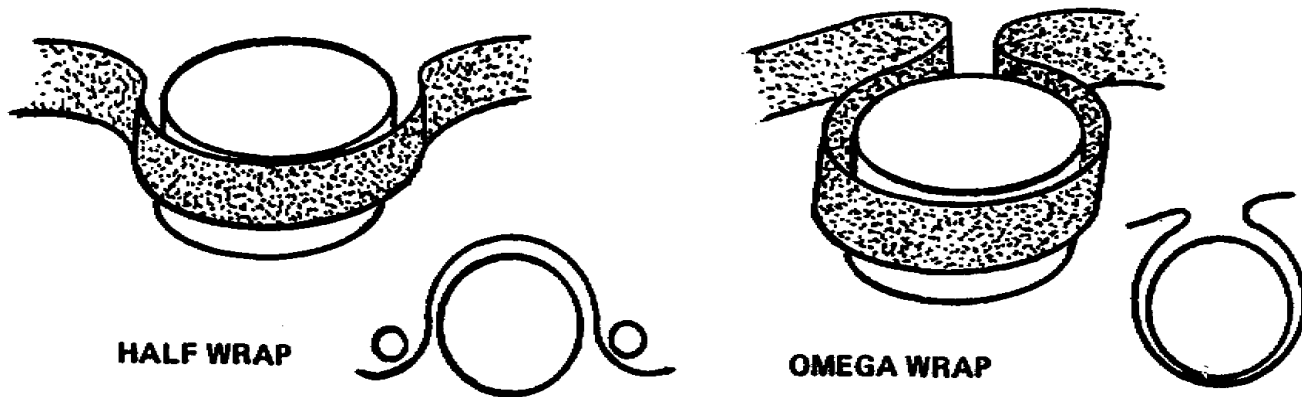

Figure 1-2. Half wrap and omega wrap
a. The helical scan VRs got their name from the way the videotape was wrapped around the head drum which surrounded the rotating head. The tape was wrapped in the form of a helical or spiral around a cylinder. You will note that the tape starts at the low end of the cylinder and comes off at the top end (fig 1-2). The video tape is never completely wrapped around the drum, but may look like one of the two views of the drum in Figure 1-2.